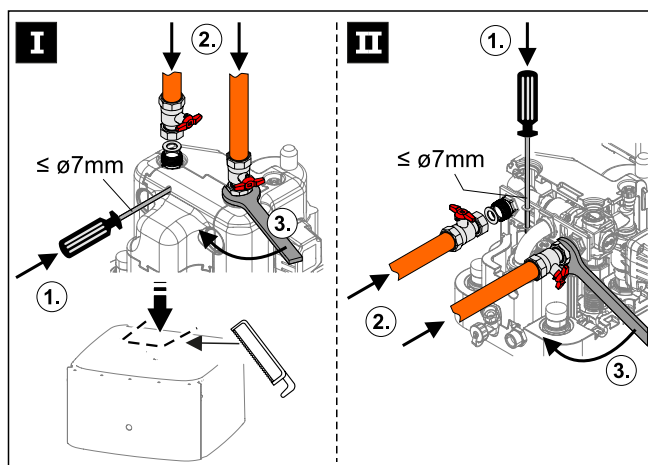

Fig. 3-30 Establishing the heating connections
- Pay attention to the stipulated tightening torque (see Chap. 9.2). To avoid damage, apply the necessary counter-torque with a suitable tool, see Fig. 3-30.